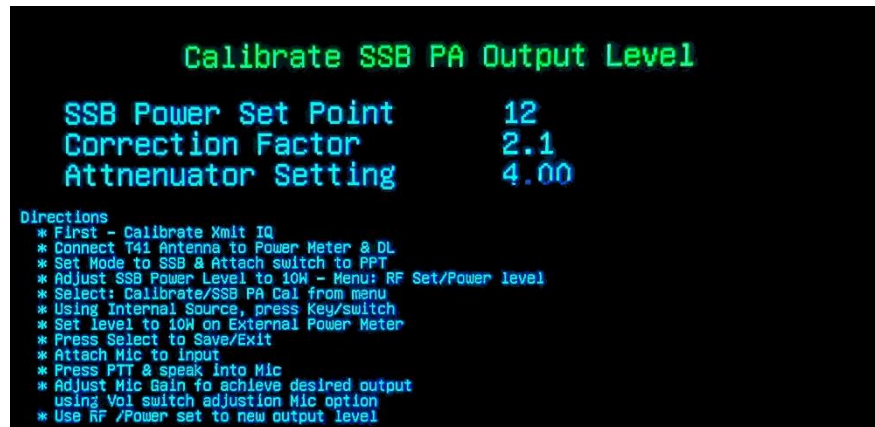

Figure 18 SSB Power Calibrate Screen
- Figure 18 shows the SSB Power Calibration screen.
- On-screen Directions are also shown in Figure 18.